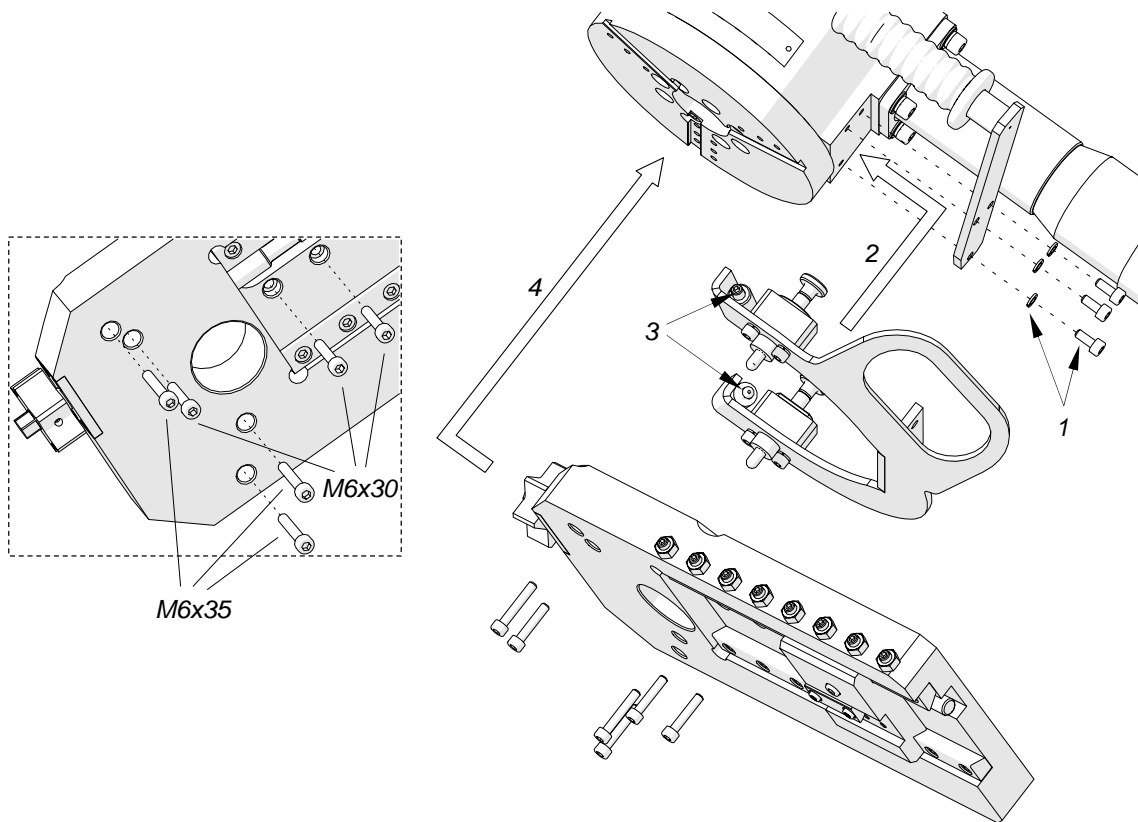

Fig. 7. Mounting the flange facing attachment
Next, dismount the machine handle by unscrewing three screws with washers (1, Fig. 7), and use them to mount the holder with two tripper blocks (2). Then, use the 4 mm hex wrench to tighten the set screws 3 at both sides of the holder, and mount the milling unit to the spindle disk (4) with six screws using the 5 mm hex wrench.